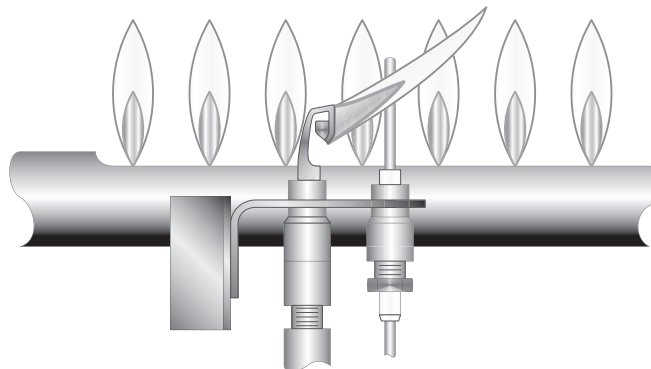

Figure 8.1: Pilot and Burner Flames
7. Check the main burner and pilot flames (see Figure 8.1). The flame inner cone should be about 1-1/2" high and should have a very sharp blue color. Poor flame conditions can be caused by dirty burners, obstructed orifices or incorrect gas pressure.